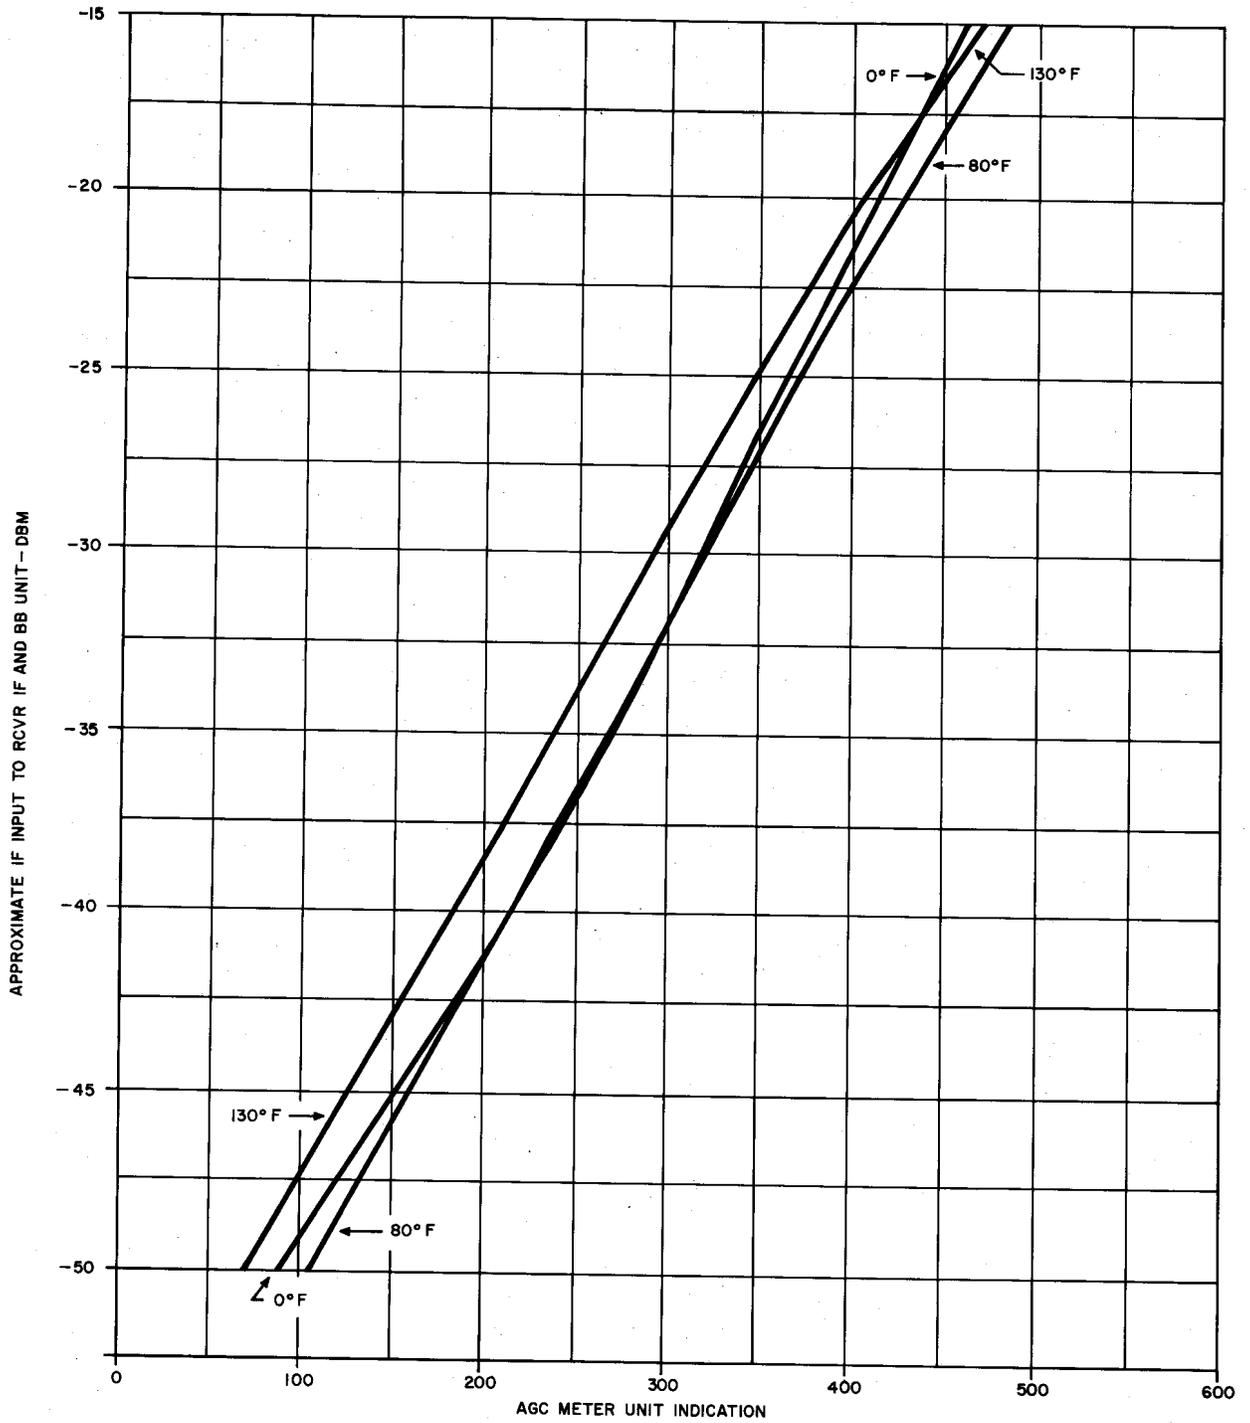
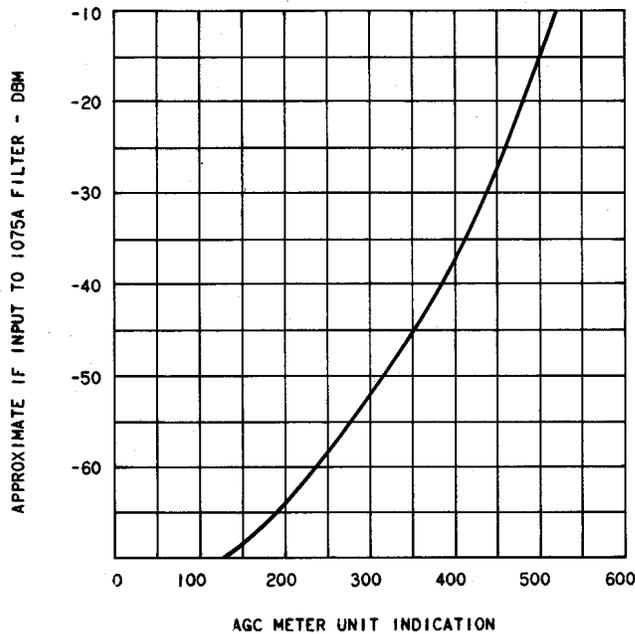

Fig. 2—J99296G-1, List 3 Unit—Receiver AGC Characteristics—Graph
Fig. 3—J99351E Unit—Receiver AGC Characteristics—Graph
- (b) The J99296G receiver IF and baseband unit. See Fig. 2.
- (c) The J99351E-1 IF amplifier unit with the J99351J-1FM receiver unit. See Fig. 3.
Figure 2 represents the improved temperature compensated IF and baseband unit which may be identified by the markings J99296G, L3, H or L4 on the unit. Figure 3 shows the AGC characteristic for stations equipped with the new IF amplifier and FM receiver arrangement (J99351E and J99351J). For routine checks on working systems, refer to the station records which show the received signal level indications obtained at the time of initial installation and on previous station units. These records should be compared with present receiver input levels to determine the status.